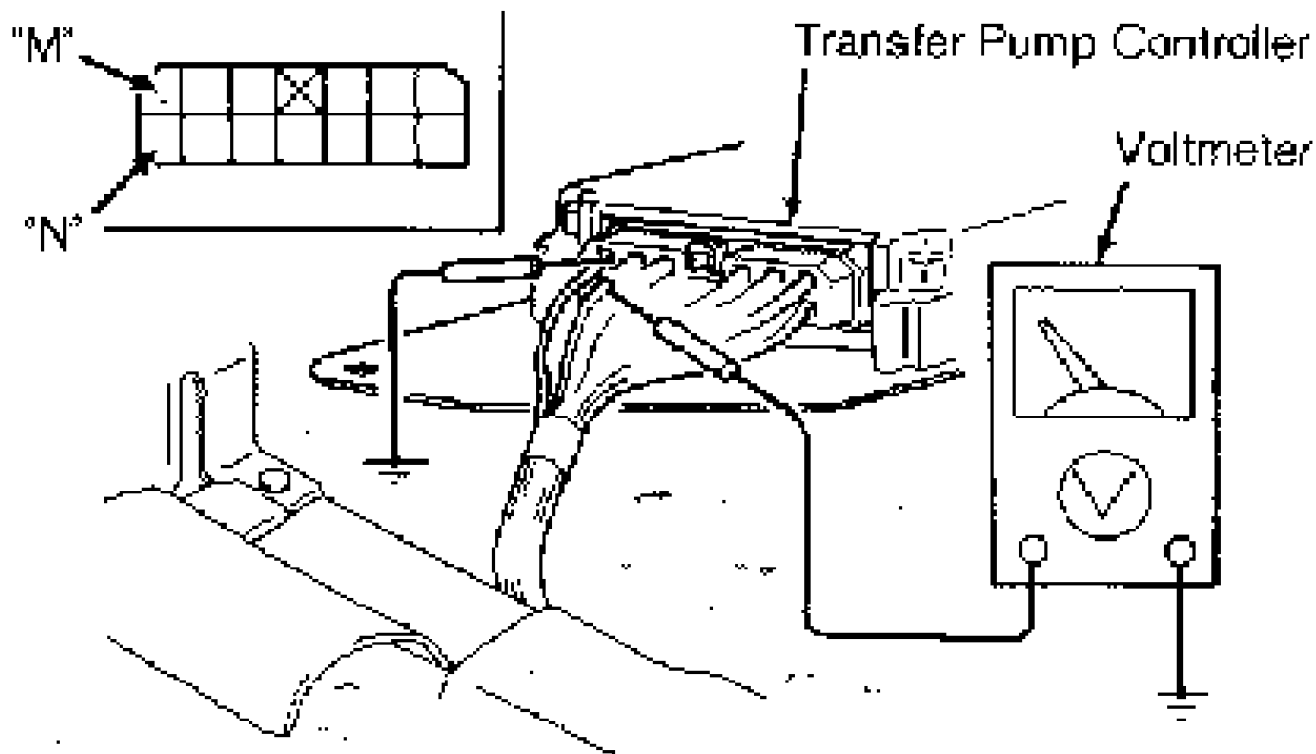

Fig. 4: Testing Transfer Pump Control System
1) Turn ignition on. Ensure fuel gauge reads more than half full and transfer pump operation is heard. Ground transfer pump connector Yellow/Blue wire, and verify pump stops. Remove the ground from terminal Yellow/Blue wire, and verify pump operates after about 10 seconds. If pump does not operate as specified, see TRANSFER PUMP. See Fig. 4.